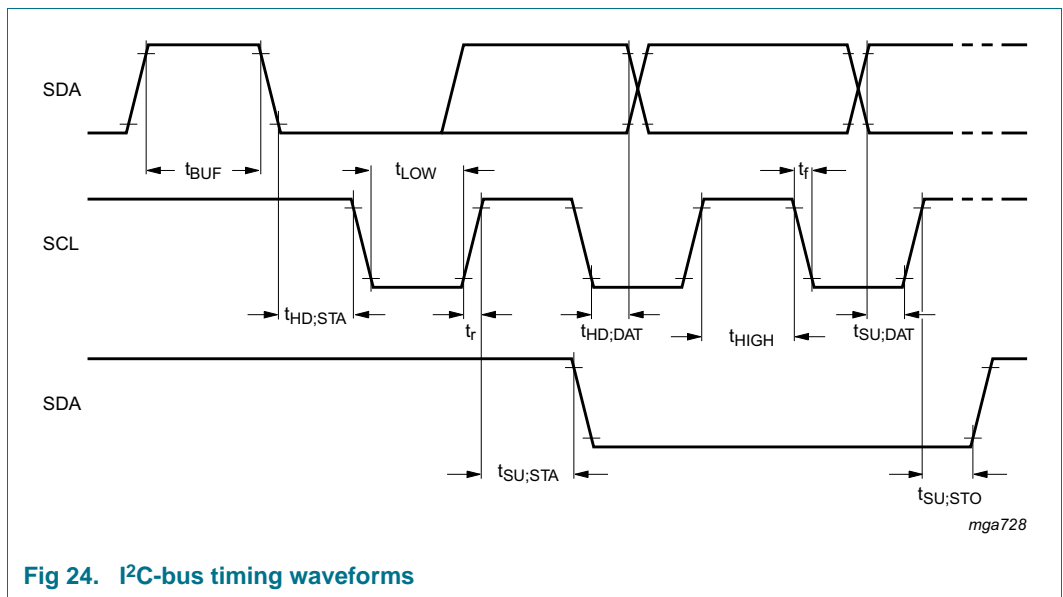

Fig 24. I²C-bus timing waveforms
- [3] All timing values are valid within the operating supply voltage and ambient temperature range and are referenced to V_{IL} and V_{IH} with an input voltage swing of V_{SS} to V_{DD} . For I²C-bus timings see Figure 24.